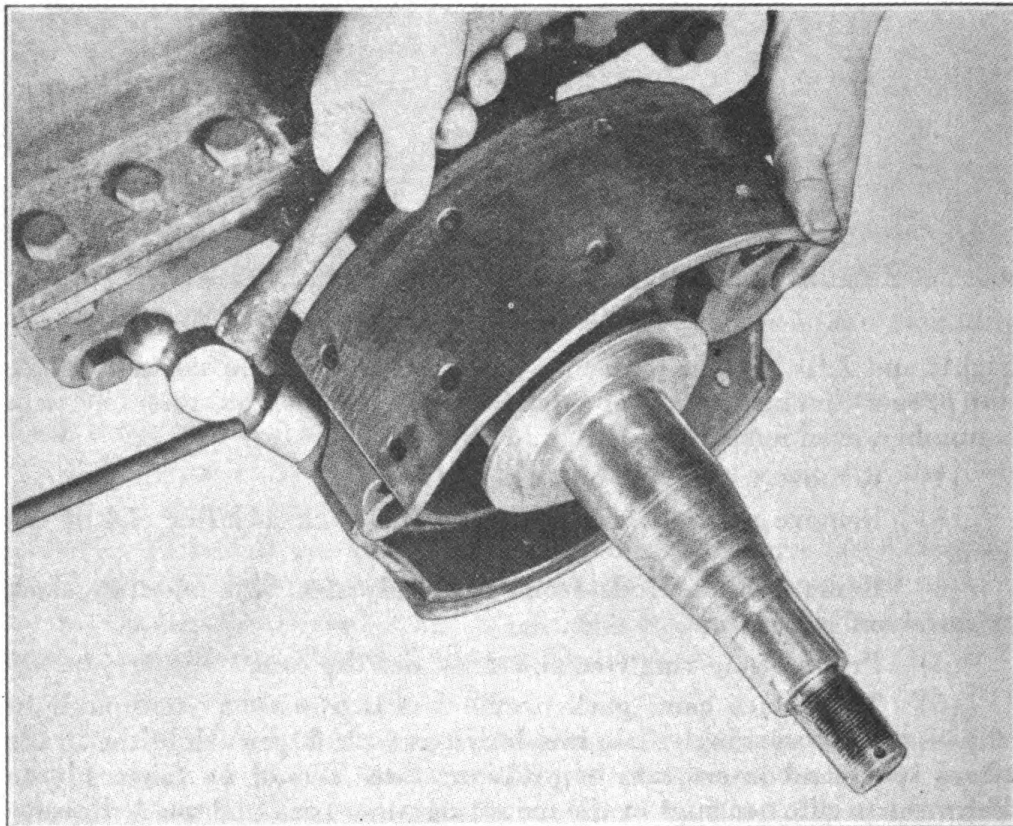

FIGURE 16. REMOVING BRAKE SHOE—REAR
6. BRAKE SHOES, REAR.—*a.* Removal. (Fig. 16.)—(1) Pry the snap rings off the two anchor pins using two screwdrivers.